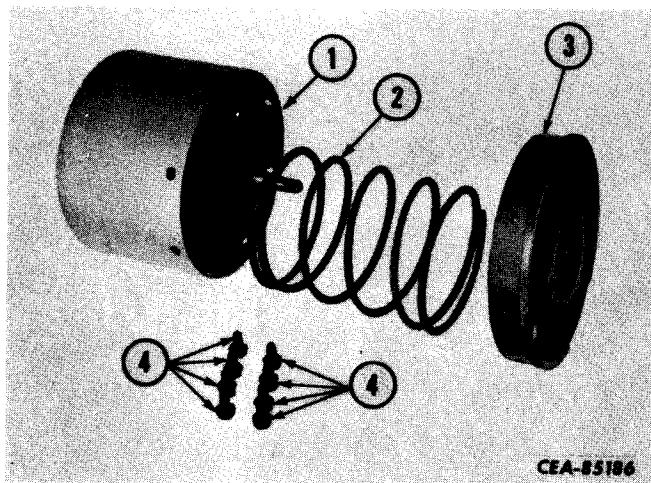

Figure 13-32
Remove cap screws and lock washers (4, Fig. 13-32) that fasten shell (1) to head (3). Remove head and piston return spring (2).
Place piston return spring (2, Fig. 13-32) in shell (1). Insert head (3) into shell and secure with cap screws and lock washers (4).